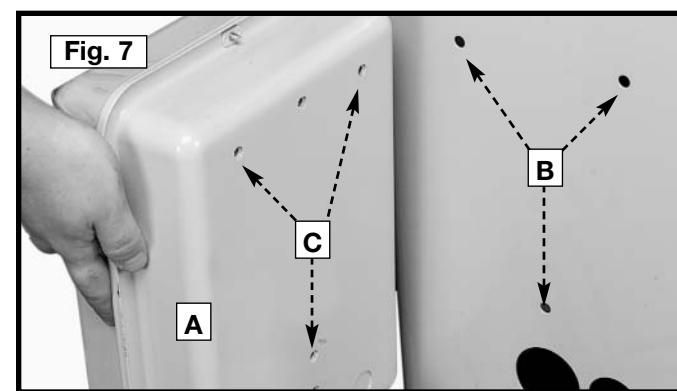

Fig. 7
1. Place a 1/4" lockwasher, then a 1/4" flat washer on a 1/4-20x1/2" hex head bolt. Insert the bolt through one of the holes (B) Fig. 7 on the inside of the saw cabinet and into the matching tapped hole (C) Fig. 7 in the starter. Tighten just enough to hold the starter.